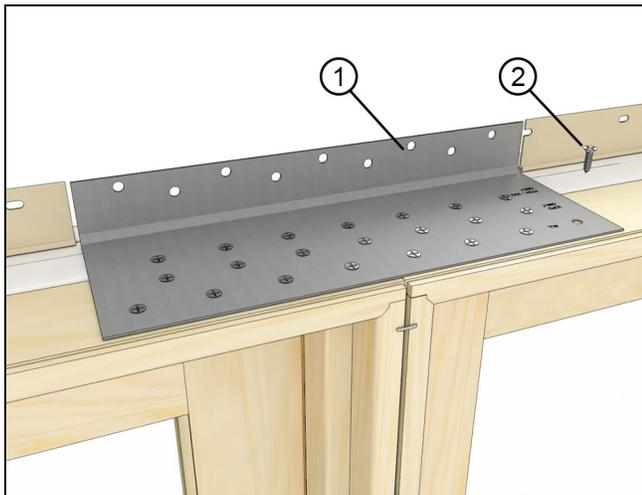

Figure 10
1. Center an ELOFD clip over each mullion. Attach with #7 x 5/8" Phillips flat head screws through every hole in the clip. See Figure 10